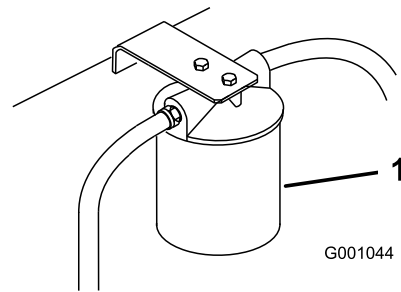

Figure 54
3. Place drain pan under filter, remove the old filter and wipe the filter adapter gasket surface clean (Figure 54).